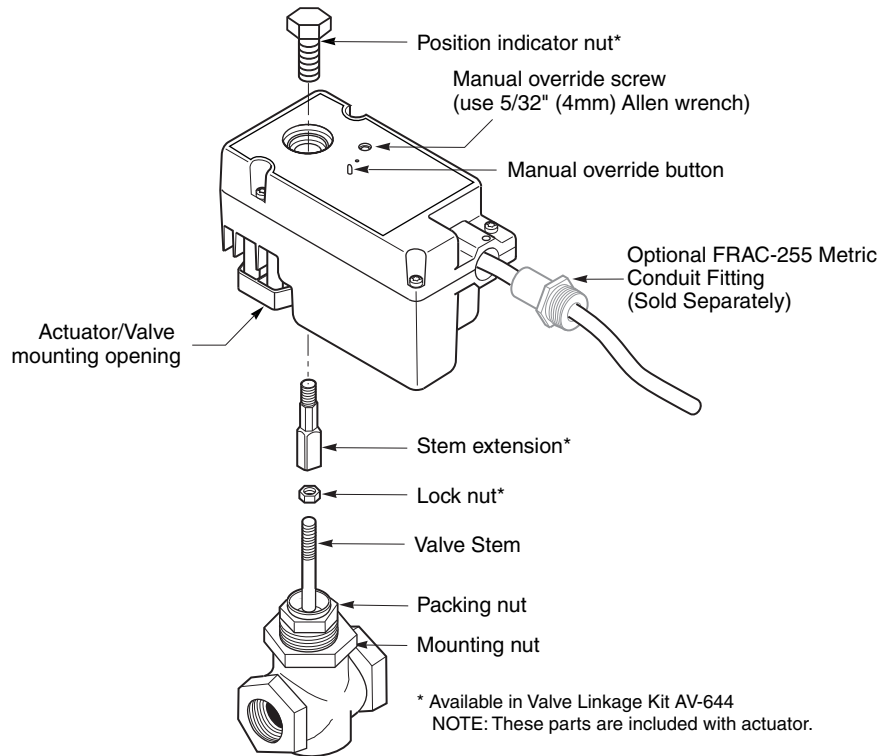

Figure-10 MF-2xxx3 Series and MS-22353 Actuator Assembly Diagram.
**Caution:** The hex shaped interface between the stem extension and drive screw does not require high indicator nut tightening torque. Do not tighten the indicator nut beyond the hex shoulder on the stem extension or a reduction in the actuator output may result. See Figure-10 for parts identification.
2. Remove the stem extension from the actuator. Unscrew the position indicator nut on the top of the actuator and remove it. Refer to Figure-10 for part identification.
If an actuator is run or adjusted without being mounted to a valve, the actuator position can be re-established. Refer to Table-2 and Figure-10.